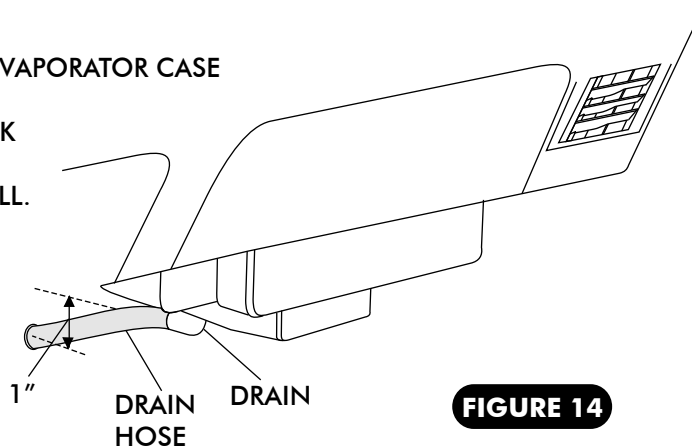

FIGURE 14
- ☐ IN-LINE WITH THE DRAIN, LIGHTLY MAKE A MARK ON THE FIREWALL. MEASURE ONE INCH DOWN AND DRILL A 5/8" HOLE THROUGH THE FIREWALL. SEE FIGURE 14.
- ☐ INSTALL DRAIN HOSE TO BOTTOM OF EVAPORATOR UNIT AND ROUTE THROUGH FIREWALL. SEE FIGURE 14.